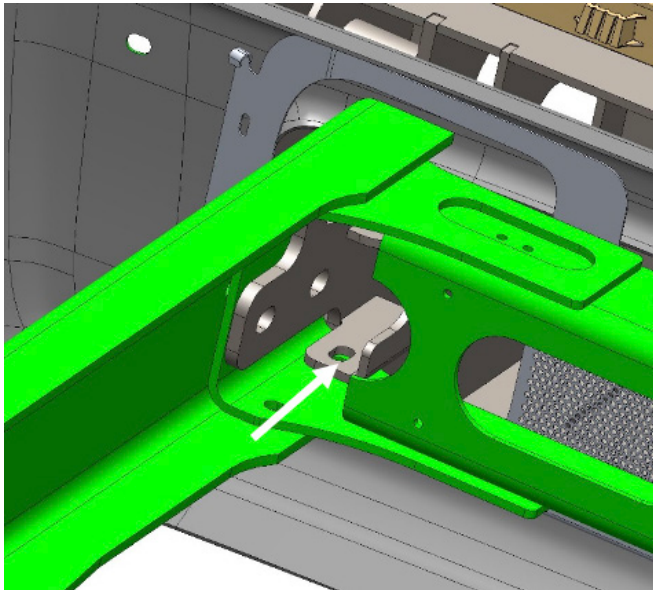

Figure 4
1. If truck is equipped with tow hooks: Removed the tow hooks from the truck using an 18mm socket. Attach the tow hooks to the bottom of the winch tray using four (4) of the provided 1/2"-13 yellow zinc bolts, flat washers and lock nuts (50264-HW). Figure 4.